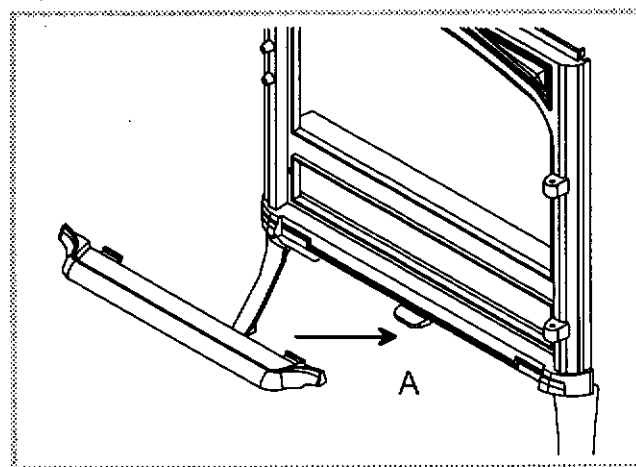

Figure 6 - Mounting the tray
- Centre the tray on tab "A" and lower into place (fig. 6).